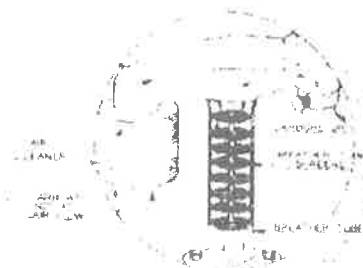

Figure 4. Air Cleaner, Crankcase Breather Tube and Breather Strainer.
10. **Air Cleaner.** Remove the air cleaner (See Fig. 4) and wash it out in petrol. Allow it to dry, then put a light oil on the filter element. Allow the excess oil to drain out, then replace the air cleaner.